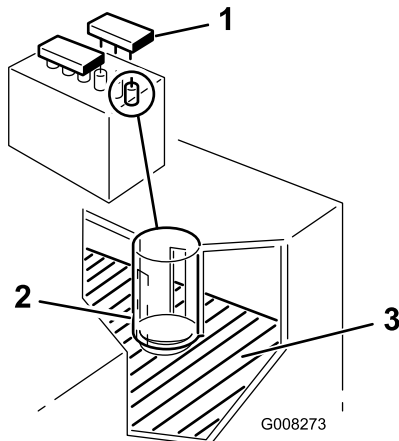

Figure 35
2. Remove the filler caps. If the electrolyte is not up to the lower part of the tube (Figure 35), add the required amount of distilled water; refer to Adding Water to the Battery.
2. Remove the filler caps (Figure 35).
3. Slowly pour distilled water into each battery cell until the level is up to the lower part of the tube (Figure 35).